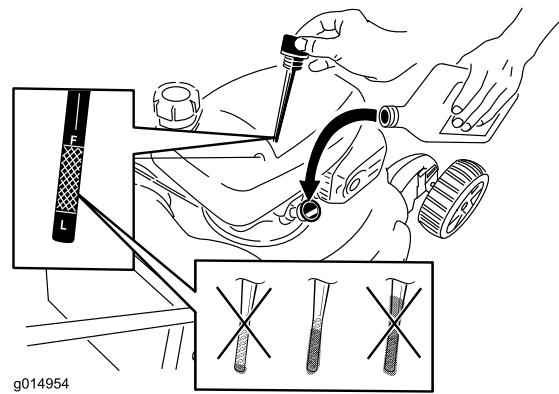

Figure 15
1. Remove the dipstick, wipe it clean, and fully install the dipstick (Figure 15).
2. Remove the dipstick and check the oil level (Figure 15). If the oil level is below the **Add** mark on the dipstick, slowly pour oil into the oil fill tube to raise the oil level to the **Full** mark on the dipstick. **Do not overfill.** (Max. fill: 20 oz., type: SAE 30 detergent oil with an API service classification of SF, SG, SH, SJ, SL, or higher.)